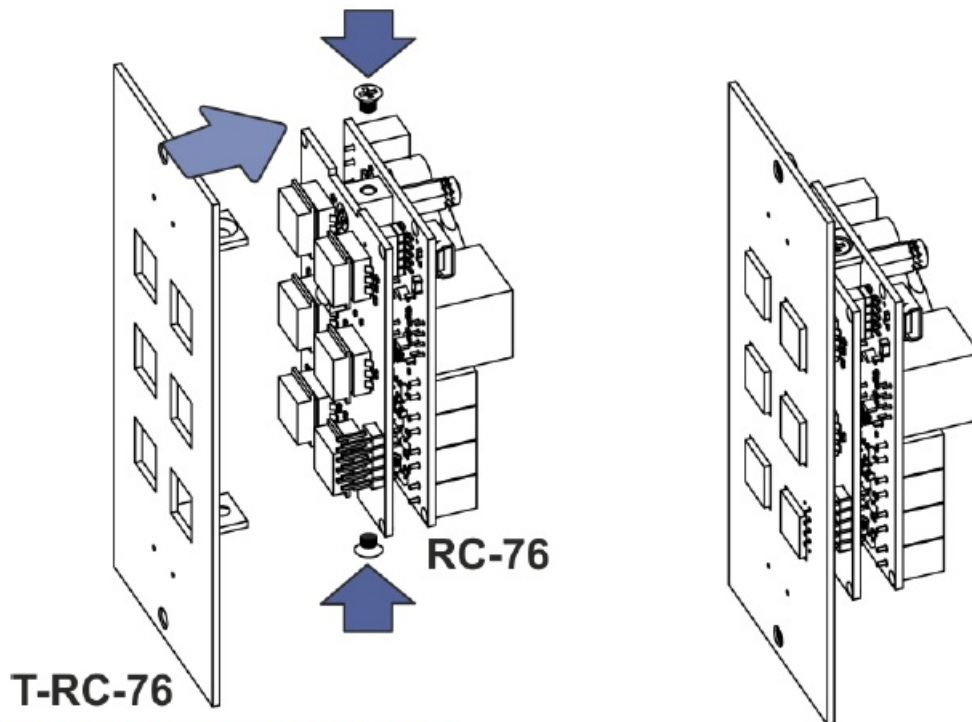

Figure 8: T-RC-76/T-RC-78 Installation
2. Fit the T-RC-76 over the buttons of the RC-76; insert the two mounting plate screws through the T-RC-76 mounting bracket screw holes and tighten them (see Figure 8).